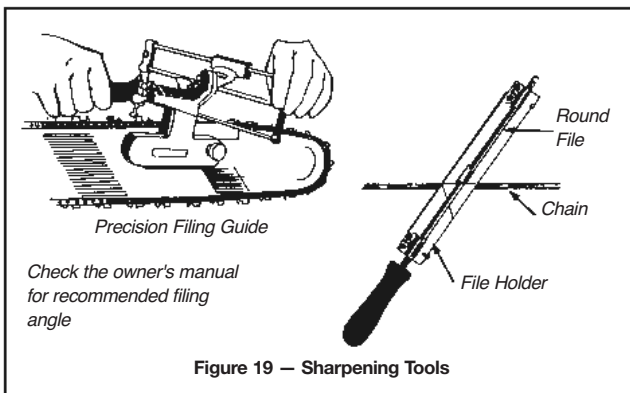

Figure 19 – Sharpening Tools
- A round file used in combination with a file holder or, better yet, a precision filing guide will give the best results (Figure 19).